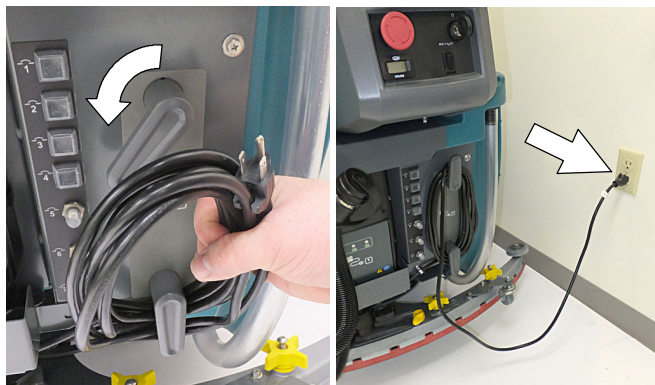

FIG. 73
4. For models equipped with an on-board charger, remove the charger's power cord from the storage hooks and plug power cord into a properly grounded wall outlet (Figure 73).